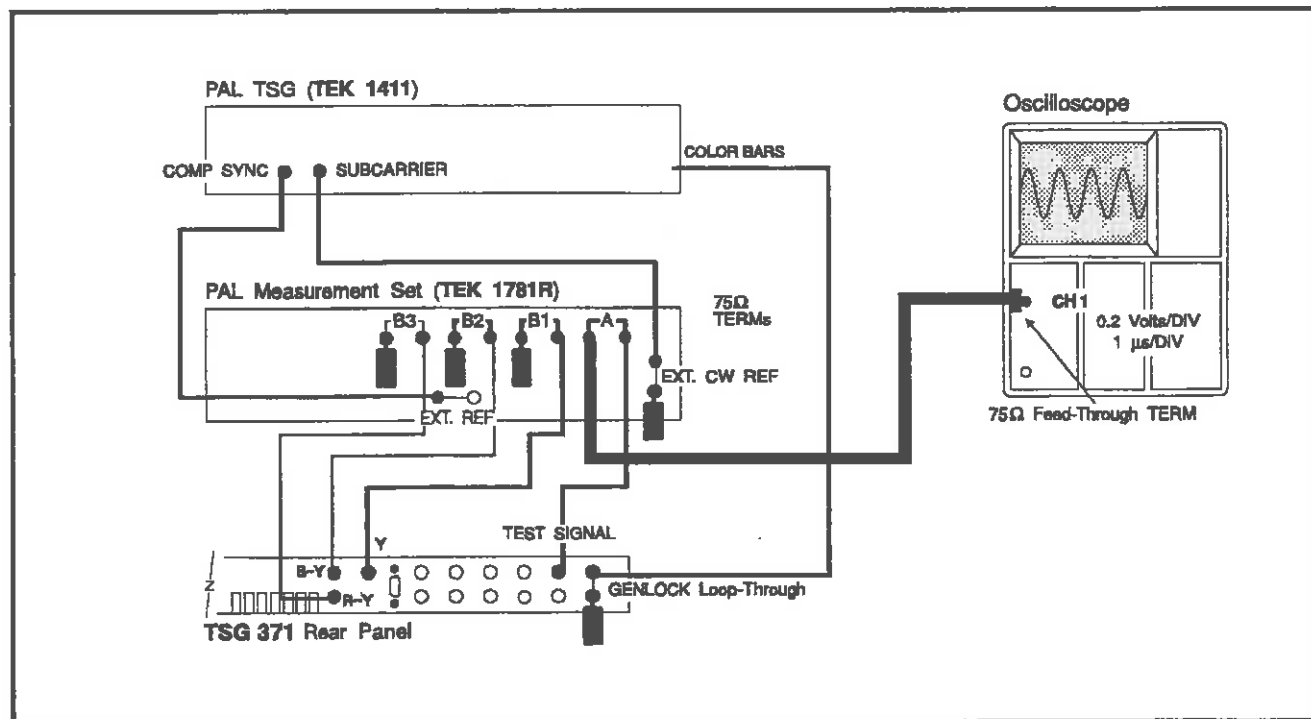

Fig. 5-12. Checking C/Y Gain of Test Signal.
- Connect an oscilloscope to the TEST SIGNAL output of the TSG 371 as shown in Fig. 5-12.